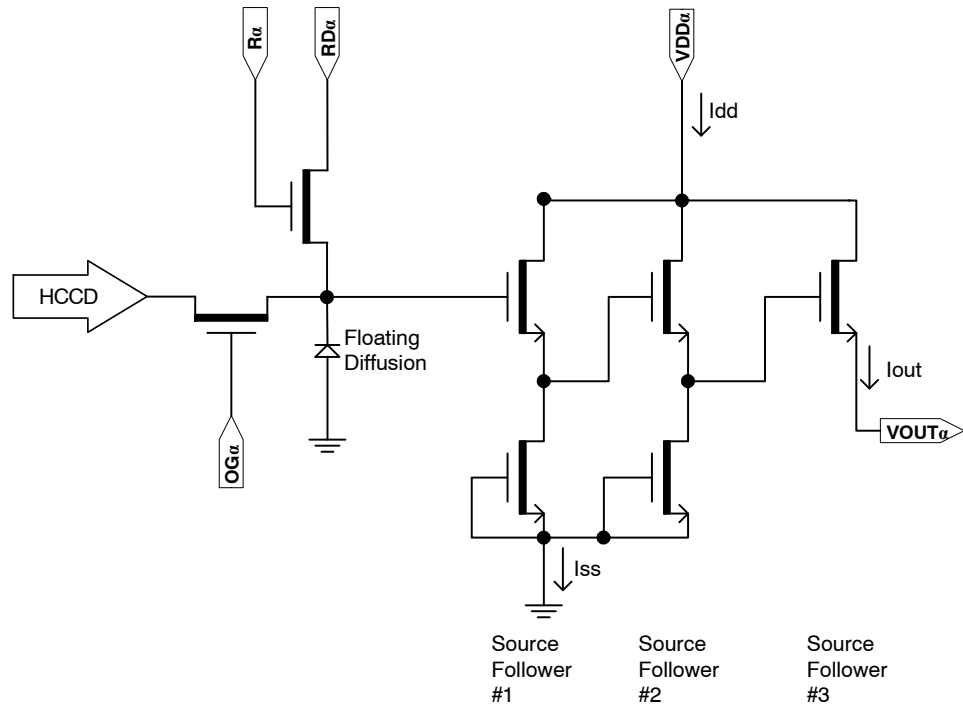

Figure 17. Output Amplifier
- The maximum DC current is for one output. I_{dd} = I_{out} + I_{ss}. See Figure 17.